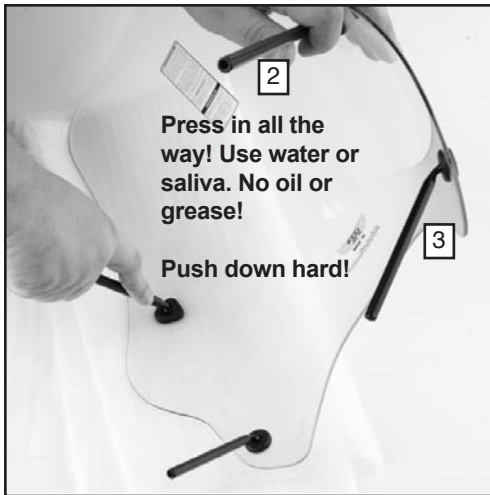

Figure 1
1. Install the Upper Rods (2) and Lower Rods (3) into Ball Sockets. Place shield face down on smooth, none scratching, well supported surface. Wet the upright ball with saliva; **do not** use oil, grease, or silicone as lubricant. Push upright ball into socket until seated, it will “pop” into place. Do this at all four sockets. **Figure 1**